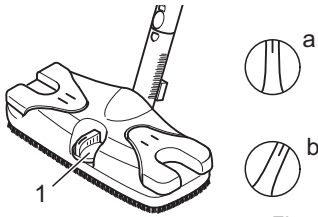

Fig. 12
9. When using the floor nozzle, adjust the carpet/hard floor switch (Fig. 12/1) depending on the type of flooring:
- **Hard floor (Fig. 12/a)**
- **Carpet (Fig. 12/b)**